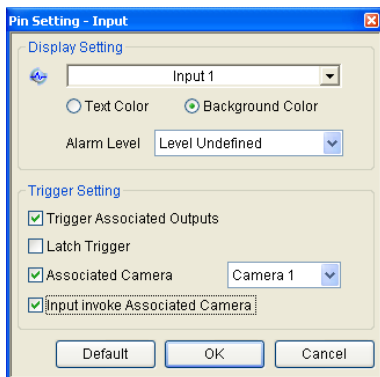

Figure 4-34
- **Use User-defined Text:** Allows you to modify the text of Alarm Level (see Figure 4-34).